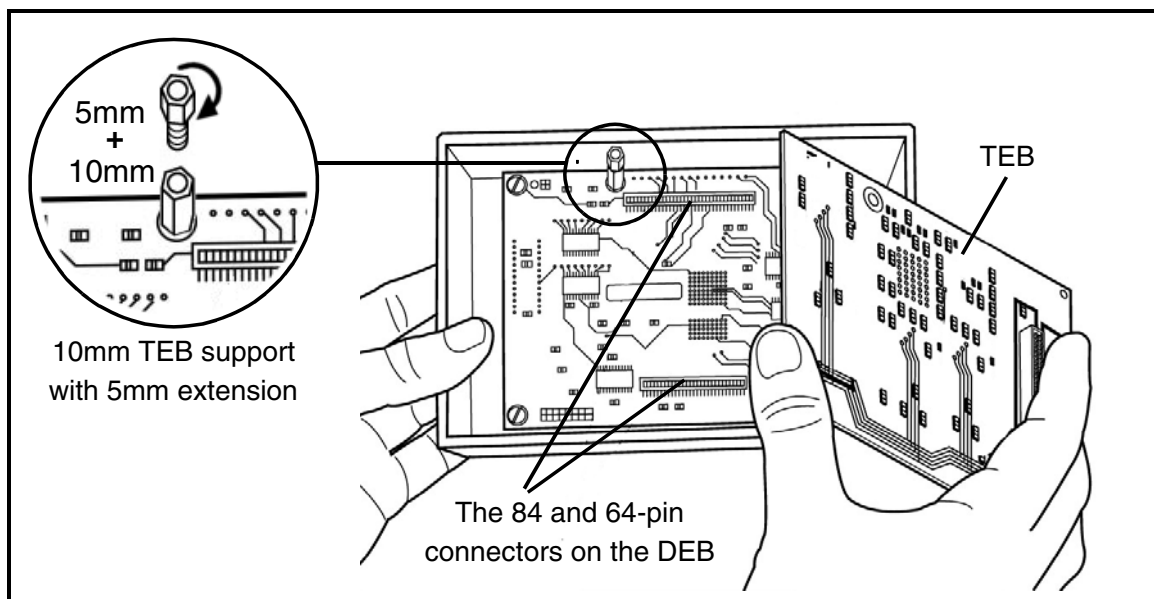

Figure 11: DEB and TEB connectors
The board under the TEB – the Dedicated Emulation Board (DEB), should now be visible (see Figure 11).
- 4 Identify the top and bottom faces of the TEB you wish to install. The bottom face is distinguished by the presence of two or more flex cable connectors placed side by side. The top face is distinguishable by two DEB connectors along the long edges of the TEB. There is one 84-pin connector and one 64-pin connector, which match the DEB connectors shown in Figure 11
- 5 Install the replacement TEB in the EMU3 probe by inserting the male 84-pin/64-pin connectors into the TEB's female 84-pin/64-pin connectors (refer to Figure 11). Because the connectors are asymmetric, there is only one possible connection scheme.
Note: *For some TEBs, the microcontroller is mounted on a support and not soldered directly to the board. In this case the TEB's 84-pin and 64-pin connectors have an additional height of 5mm to allow enough room for the microcontroller. To compensate you will need to add a 5mm extension to the 10mm support on the DEB, as shown in Figure 11 on page 22. The 5mm extensions are provided with your TEB and screw into the 10mm supports. However, remember that if you install a TEB with surface mounted microcontroller later, you will have to remove the 5mm extensions.*